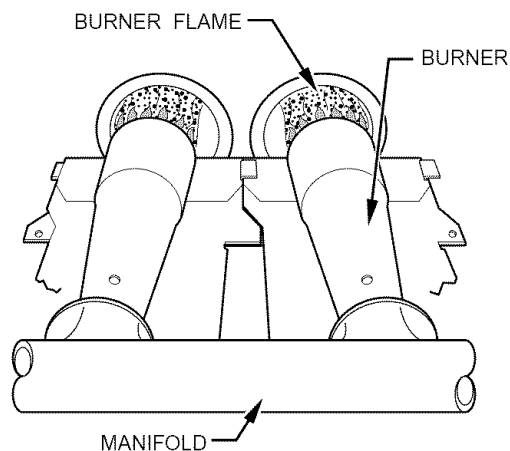

Fig. 59—Burner Flame
g. Look through sight glass in burner enclosure and check burner flame. Burner flame should be clear blue, almost transparent. (See Fig. 59.)